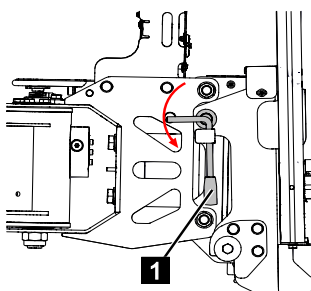

Fig. 159
4. Turn the locking pin (Fig.159/1) 90° anti-clockwise until it engages.